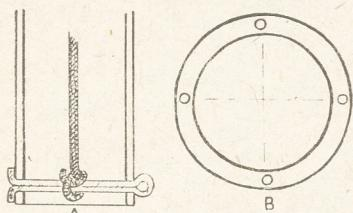
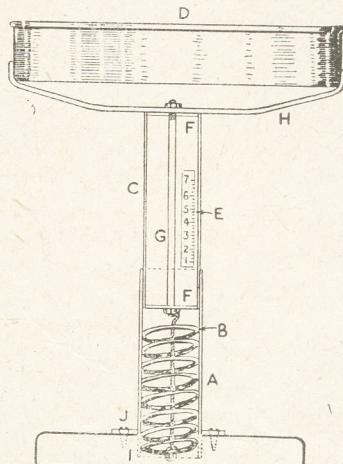

Fig. 2—The securing cord (A) and (B) pattern of collar for base
Fig. 1—Sectional view of parts and construction
Assuming that the reader has obtained a spring of the above dimensions, the lower tube which is of either brass or copper, must be 2ins. in internal diameter by 7ins. length. The inside must be nicely polished smooth and a very light smear of oil applied. The upper tube is of similar metal and must be 2ins. external diameter by 8ins. length. Two end-pieces, Fig. 1 (F), are soldered into place and the scale-pan carrier secured into position by a long bolt (G) which passes down the length of the tube and is bolted through and on the end-pieces.
Near the bottom of the larger tube is drilled two small holes and a split-pin passed through and secured by opening and turning the ends over—Fig. 2 (A). A thin cord or small chain is then fastened under the bolt (G), the spring inserted in tube (A) then the smaller tube (C) inserted inside the larger tube and pushed down until the spring is slightly compressed.
The stand should be made from a fairly substantial piece of wood. A hole is drilled nearly through of the same external diameter as that of the lower tube (I). The tube is then pressed in as far as possible and securely located in position by a collar or ring. The collar is made from brass $\frac{1}{4}$ in. thick to the pattern as shown in Fig. 2 (B). This is slipped over and down the tube and is tightly screwed into the baseboard with four screws, Fig. 1 (J). It is then sweated with solder around the tube, thus making a firm and stable assemble.
The T handle, Fig. 1, generally breaks off at the join with the shaft. It can be made as good as new by first cutting off all rotted or broken parts and then cutting down to a shoulder to fit tightly in the top bar and then to drive in a good wedge. It might be that only a nicely fitted wedge was necessary—cut this from hard wood and do not make the taper too sharp. All wedges should be glued before tapping home to prevent any possibility of them working loose.